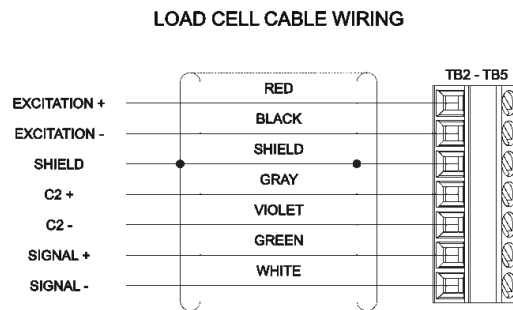

FIG. 20 C2 WIRING COLORS
Step 3. Use a small slotted head screw driver to disconnect the Load Sensor cable. It is a good idea to mark the wires if the wire markers have been removed. Color code wires are shown in Fig. 20.